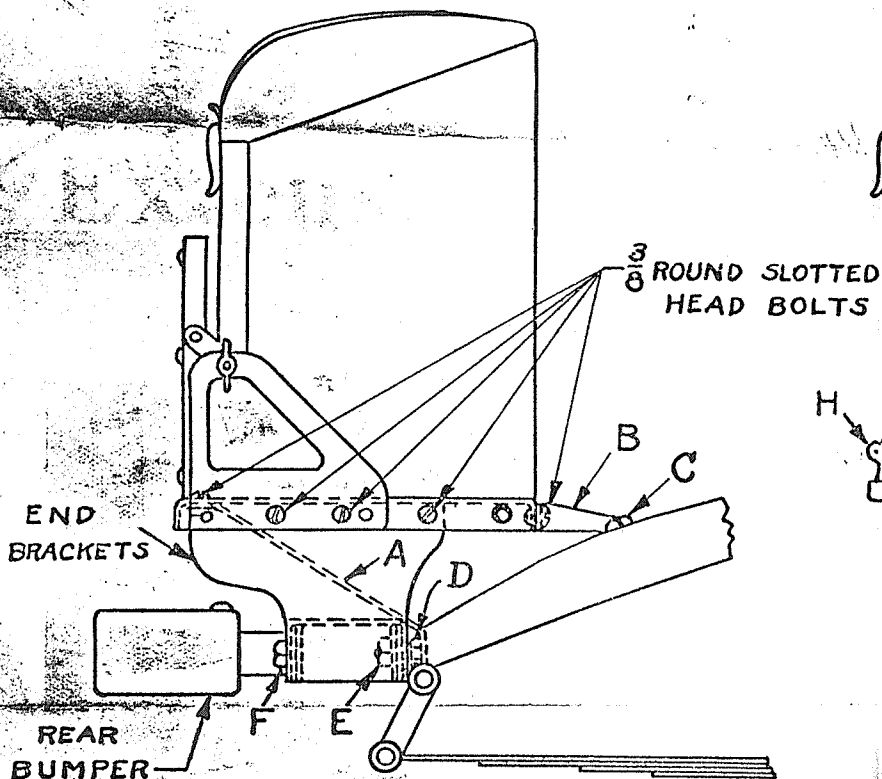

FIGURE 1
2. Attach brackets "B" to car at point "C," (Figure 1) with $\frac{3}{8}$ " hex head bolts and lock washers.